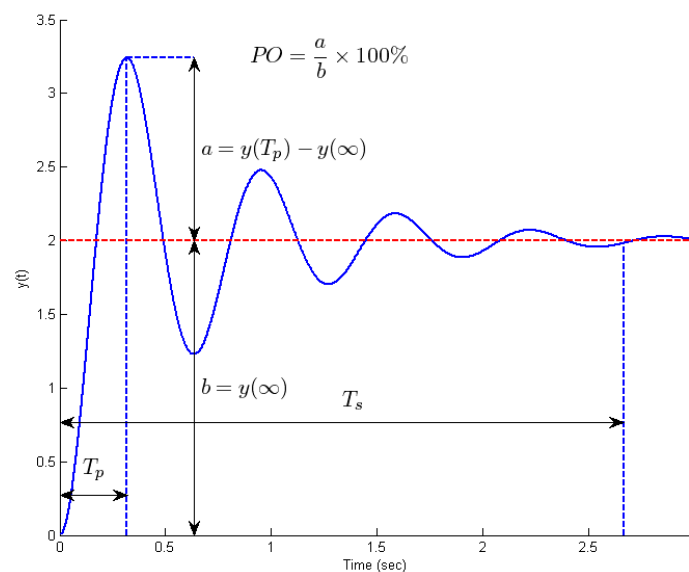

Figure 6: Second-order underdamped system characteristics
*In this part you will examine the characteristics of an RLC circuit to determine the static gain, natural frequency and damping ratio. Figure 6 shows some of the important characteristics of the step response for an underdamped second order system including Percent Overshoot (PO), Time to peak ( $T_p$ ), settling time ( $T_s$ ), and steady state value ( $y(\infty)$ ).*